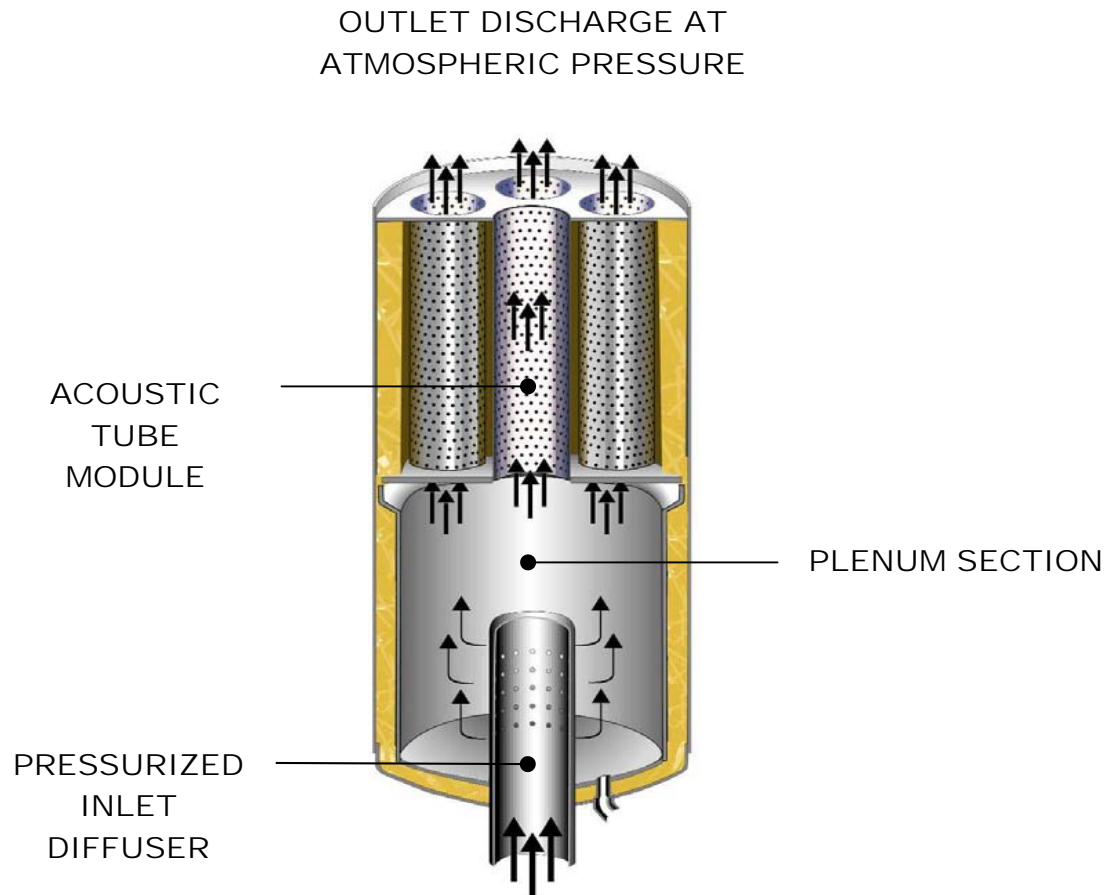

FIGURE 1. VENT SILENCER
The three principal components of the PULSCO vent silencer that actively reduce noise are the **Pressurized Inlet Diffuser**, **Plenum Section** and **Acoustic Tube Module** as shown in Figure 1. Each component accomplishes diffusion and smoothing of the flow and an overall reduction of noise.
| (8) External Liner | 12 Gage sheet wrapped around the shell (not shown in the sectioned view of Figures 1 or 3). This prevents shell radiation noise from exceeding the noise out of the tube module. |